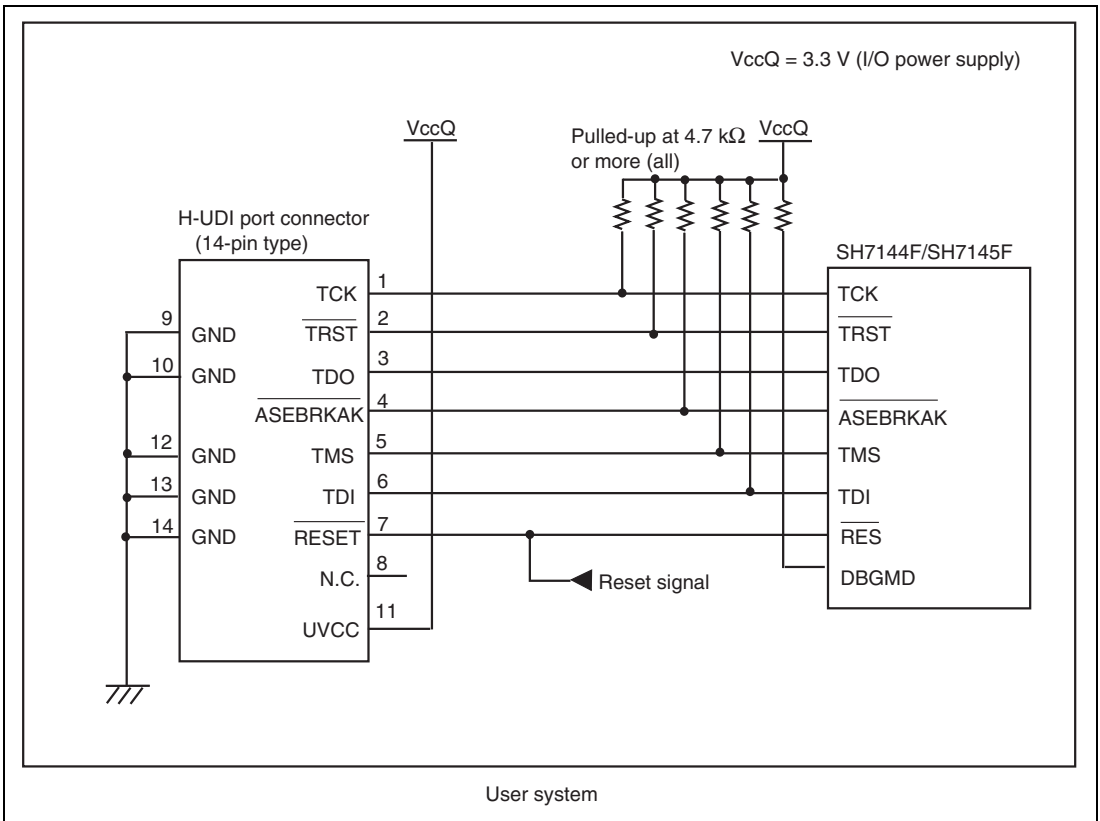
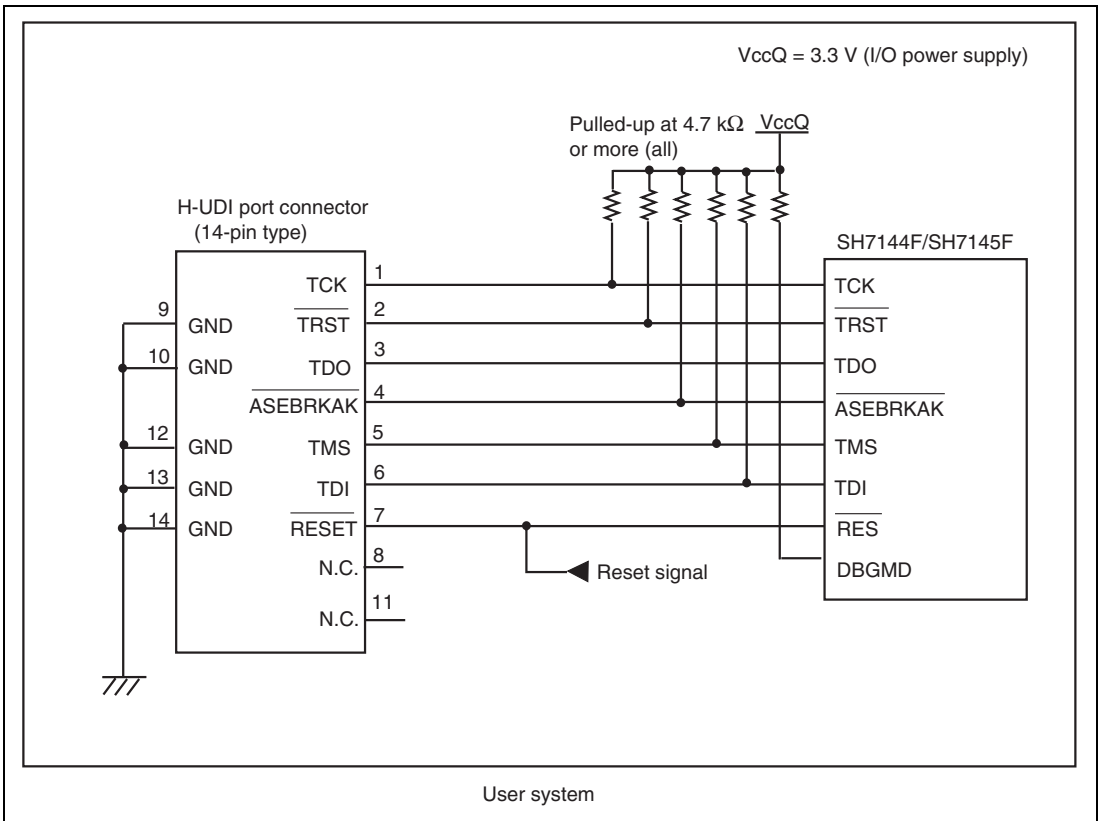

Figure 1.5 Recommended Circuit for Connection between the H-UDI Port Connector and MCU when the Emulator is in Use (14-Pin Type UVCC Connected)
Figure 1.6 Circuit for Connection between the H-UDI Port Connector and MCU when the Emulator is in Use (14-Pin Type UVCC Not Connected*)
Figure 1.5 shows a recommended circuit for connection between the H-UDI and AUD port connectors (14 pins) and the MCU when the emulator is in use. Figure 1.6 shows a circuit for connection when UVCC is not connected.
- (1) When the emulator is used: $\text{DBGMD} = 1$ (ASE mode)
- (2) When the emulator is not used: $\text{DBGMD} = 0$ (normal mode)
5. When the power supply of the user system is turned off, supplying V_{ccQ} of the user system to the UVCC pin reduces the leakage current from the emulator to the user system. A level shifter that is activated by the internal power supply or user power supply (changed by the switch) is installed in the interface circuit of the emulator. If the user power is supplied to the UVCC pin, the level shifter is not activated as long as no user power is supplied. When the power supply of the user system is turned off, no current flows from the user interface. The I/O voltage level of the user system interface can be the same as that of the V_{ccQ} . To operate the emulator with low voltage (lower than 3.3 V), the V_{ccQ} must be supplied to the UVCC pin. Make the emulator's switch settings so that the V_{ccQ} will be supplied ($\text{SW2} = 1$ and $\text{SW3} = 1$) (as shown in figure 1.5).
6. The resistance values shown in figures 1.5 and 1.6 are recommended.
When the circuit is connected as shown in figure 1.5, the switches of the emulator are set as SW2 = 1 and SW3 = 1. For details, refer to section 3.8, Setting the DIP Switches, in the SuperH™ Family E10A-USB Emulator User's Manual.
When the circuit is connected as shown in figure 1.6, the switches of the emulator are set as SW2 = 0 and SW3 = 1. For details, refer to section 3.8, Setting the DIP Switches, in the SuperH™ Family E10A-USB Emulator User's Manual.